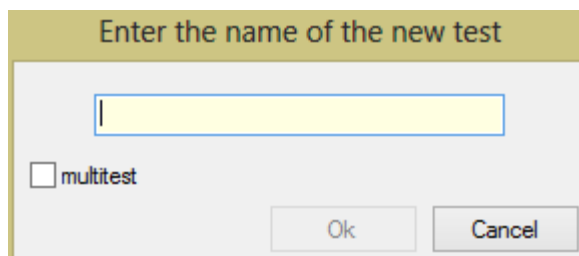

Fig.17 Window «**Enter the name of the new test**»
2. Then enter the name of the new Test in the next window (Fig.17), if necessary activate the **Multi-test mode** option (see section **Multi-test mode**) and click on **OK** button.